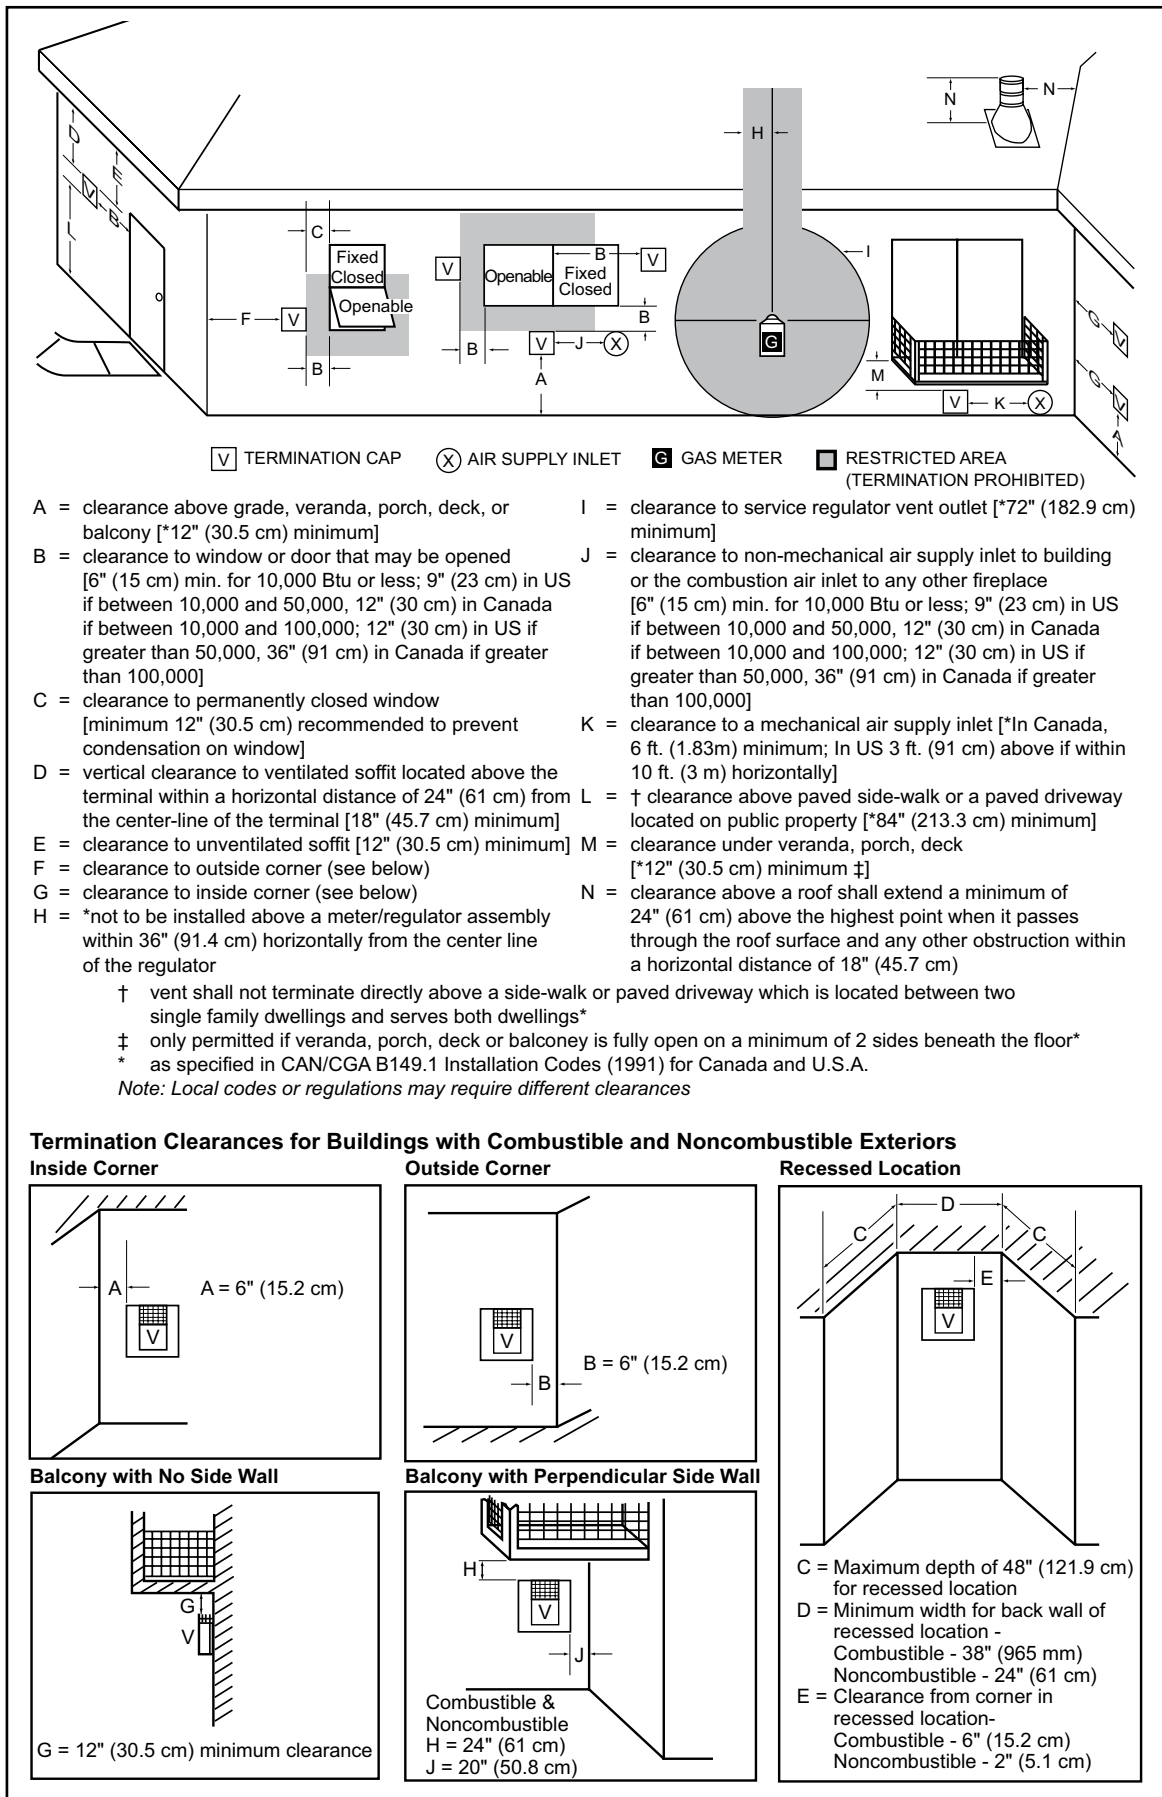

Figure 7 - Minimum Clearances for Termination Cap
- When locating termination cap, it is important to observe the minimum clearances shown in **Figure 7, Page 12**.
Horizontal vent systems terminate through an outside wall. Building Codes limit or prohibit terminating in specific areas (*Figure 7, Page 12*).